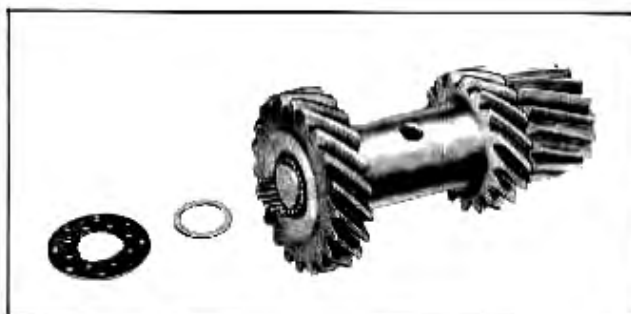

Fig. 7-20 Counter Shaft Assembly
1. If it is necessary to service bearings, spacer tube or retainer washers (Fig. 7-20) always place tool J-1001-A in the cluster gear to hold needle bearings in place on reassembly.